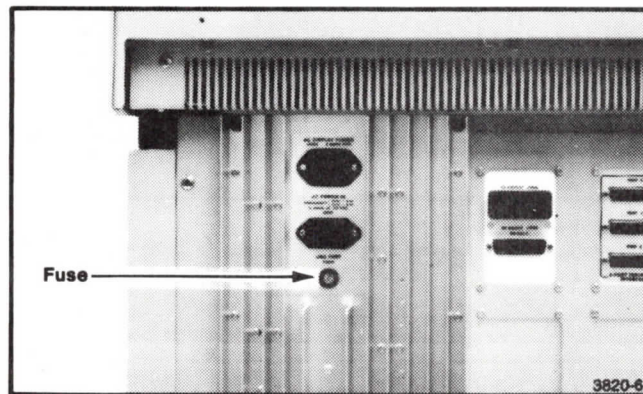

Figure 3-3. Rear View of 4114 Pedestal Showing the Fuse.
- FUSE** (Refer to Figure 3-3.)